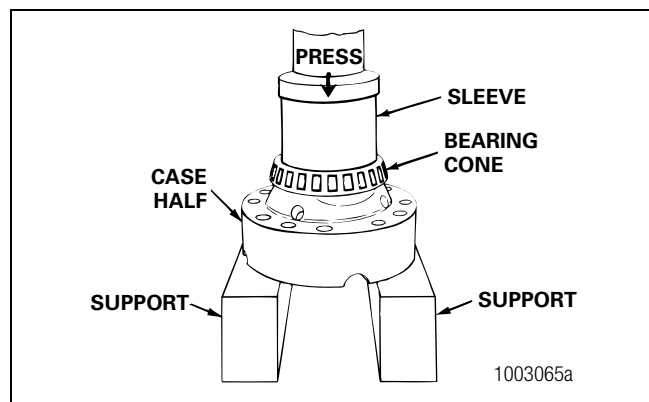

Figure 5.15
7. Install the bearing cones on both of the case halves. Use a press and sleeve of the correct size. Figure 5.15.